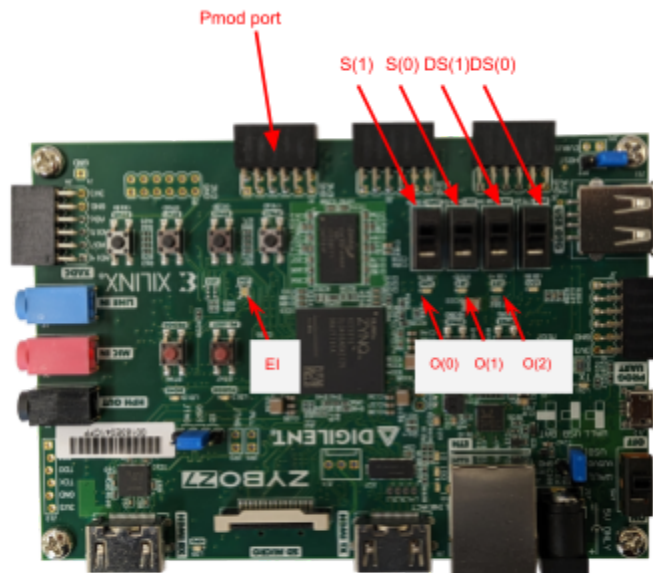
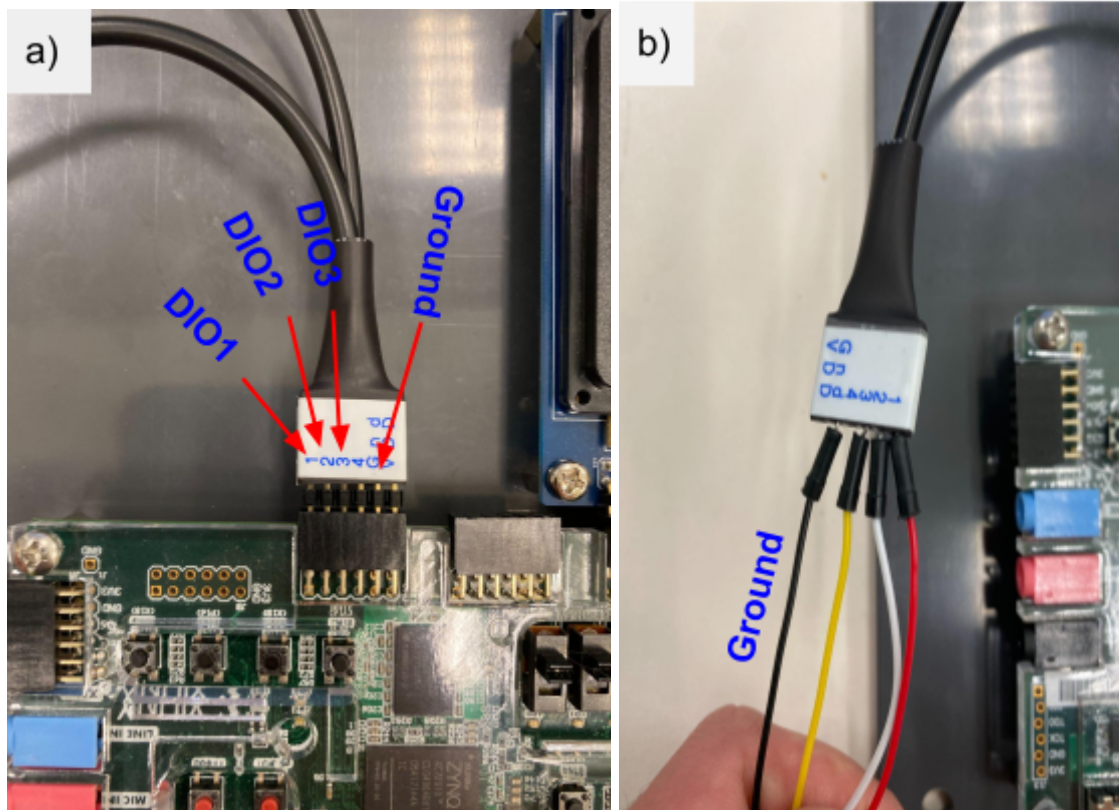

Figure 2
Figure 3
- (Part I: Hardware Implementation)** Add the constraint file for Part I from the lab 2 files (lab2\_part1\_constraint.xdc) on eclass to your project. This provided constraint file will map the MUX select inputs ( $S(0)$  and  $S(1)$ ) to the first two switches on the Zybo board and the DEMUX select inputs ( $DS(0)$  and  $DS(1)$ ) to the last two switches. Figure 2 below shows this mapping. The DEMUX outputs (the received data by engineers,  $O(0)$ ,  $O(1)$  and  $O(2)$ ) will be mapped to the three LEDs indicated. The data ( $I(0)$ ,  $I(1)$ ,  $I(2)$ ) must be externally provided by the Analog Discovery 2 (AD2) tool to the Zybo board through its PMOD ports (See figure 2, Pmod ports are a type of input/output interface). To do this, you have to connect the provided adapter cable to the left Zybo Pmod port as shown in Figure 3 (a). On the other side of this adapter cable, you need to use breadboard jumper wires to access 1, 2 and 3 on the cable. This is shown in Figure 3(b). These wires have to be connected to the AD2 DIOs 1 to 3, respectively. You need to connect the Zybo board ground to the AD2 ground (black wire in Figure. 3b). The connection can be conveniently implemented on a breadboard.